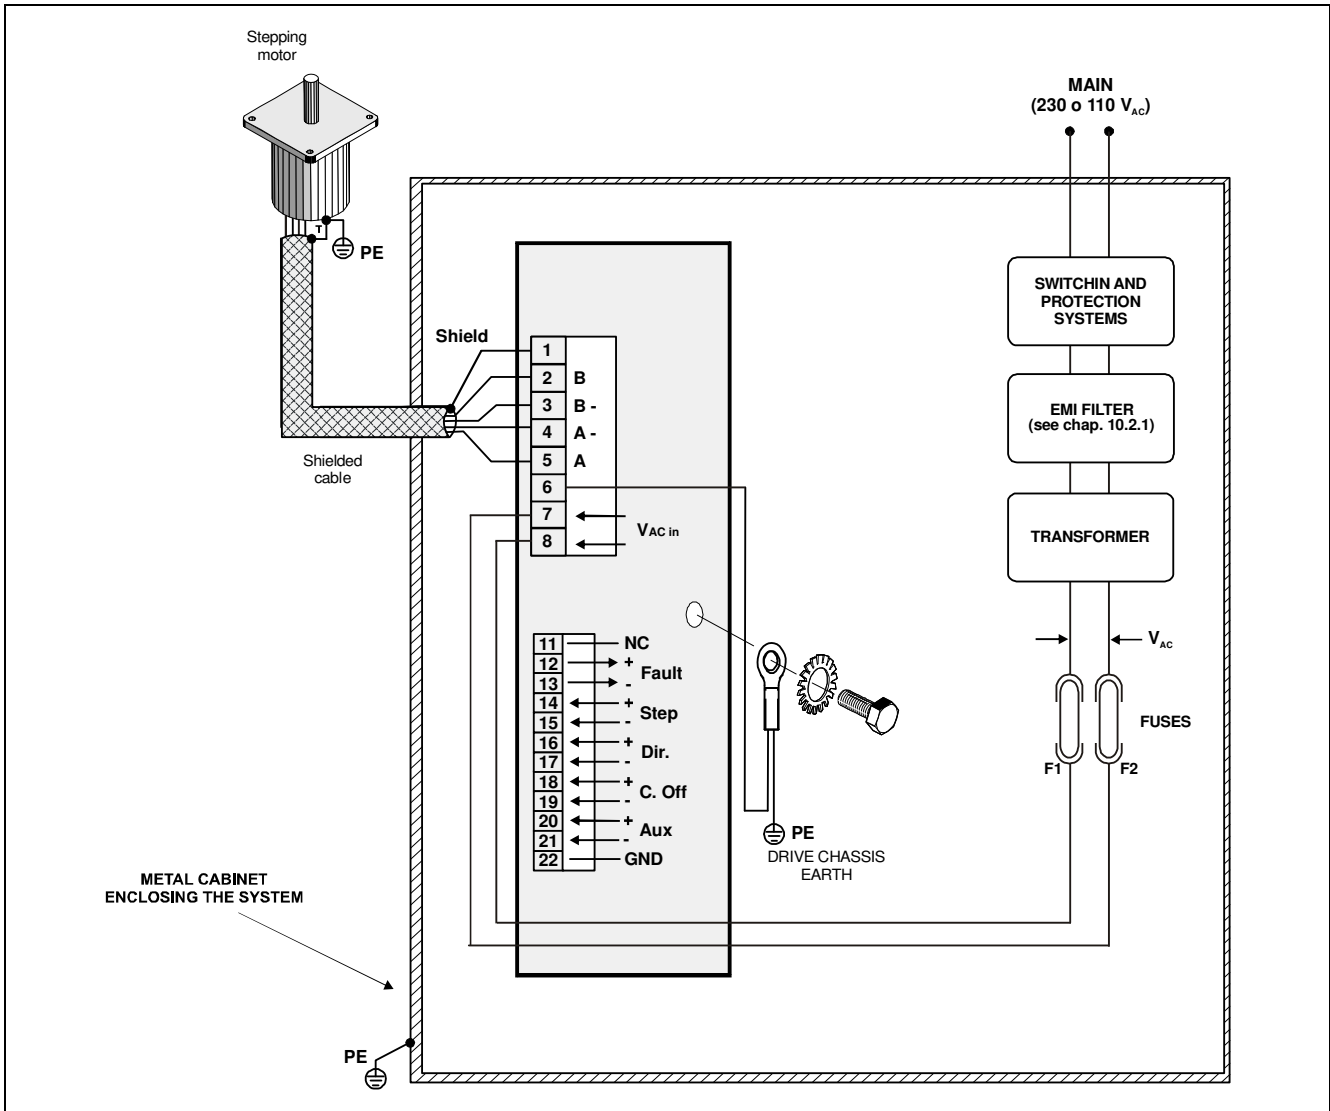

Fig. 6 – Drive external connections scheme.
- 7.3- The use of one secondary winding for more drives (max 3 drives) is allowed only if the total power required by the drives is less than 600VA. In any case, two fuses (F1 and F2 showed in Figure 6) for each drive must be used.
- 7.4- **Branch circuit protection fuses F1 and F2 (see Fig. 6) must be 10 Amp, at least 250 Volt with I^2t between 150 A^2s and 400 A^2s (for example Cooper Bussman model KTK-R-10 or Littelfuse 215010.P).**